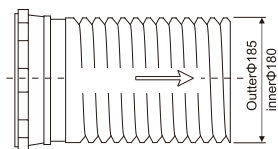

Fig 3
- Extend the flexible duct into the opened air outlet. The flow pipe should be freely bent, and the pipe wall has no concave and convex deformation, the connection is tight and the rotation pieces is smooth and natural;(As figure 3)